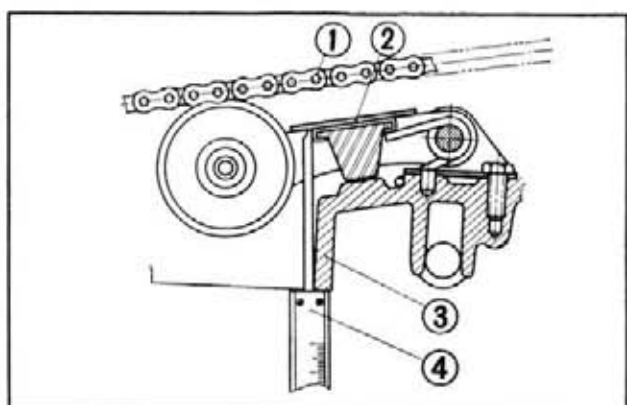

Fig. 3-90 ① Primary chain ③ Lower crankcase
② Primary chain tensioner ④ Vernier caliper
- c. Measure the distance between the primary chain tensioner bracket and the oil pan mounting flange (Fig. 3-90) with the vernier caliper.